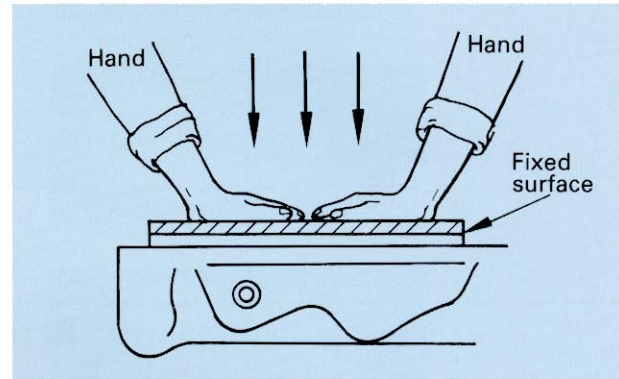

Fig. 3
- (2) Push down on the whole valve plate with both hands, and rotate the valve plate about 5° from side to side three times to rub the surfaces together. (Press with a force of 35 kg ~ 40 kg.) See Fig. 3.